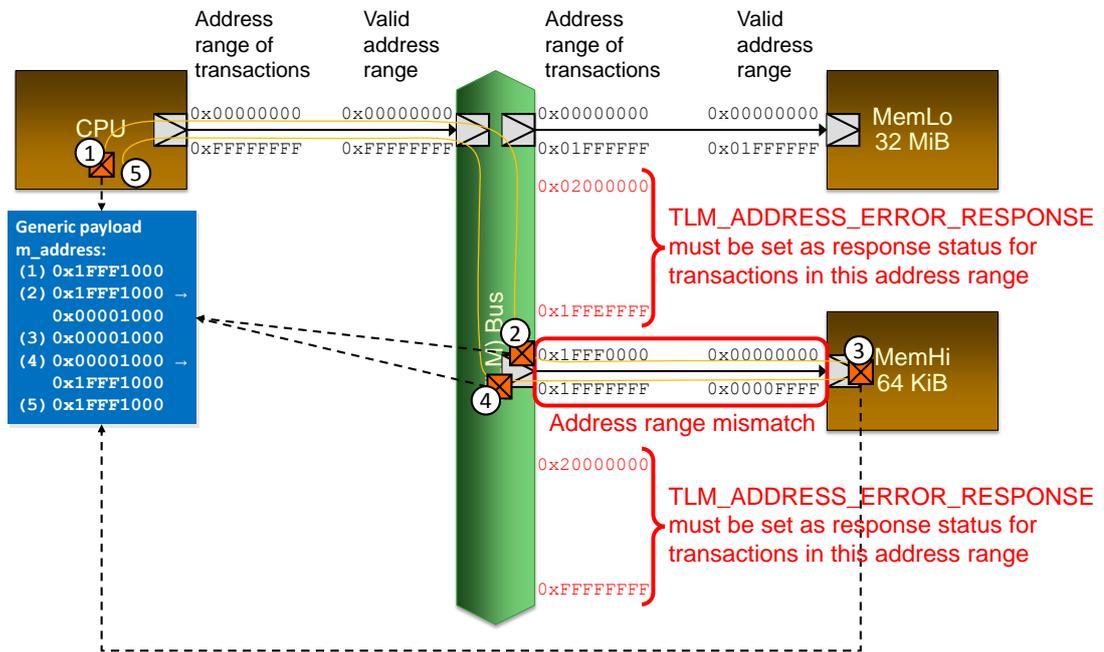

Figure 6: Example of address rewriting for a transaction accessing memHi
- g) Implement address rewriting and the search for the right TLM initiator socket as a method called `decode` that can be used by the TLM interface methods `b_transport`, `transport_dbg`, and `get_direct_mem_ptr`. Please realize a generic solution that uses the address ranges given to the `getInitiatorSocket` method and does not contain hard coded addresses from the following example, which is only used to illustrate the process. To exemplify, consider the transaction with address `0xFFFF1000` shown in Figure 6 that the CPU initiates at point ①. Clearly, the CPU can initiate transaction for its whole address range of 4 GiB, i.e.,
bus slave back into the global address range used by the bus. To exemplify, this happens at point ④ in Figure 6 where `0x1FFF0000` is added to the address to restore it back to its original value. Thus, at point ⑤ the CPU sees a transaction containing the same address as was used to initially send it at point ①.